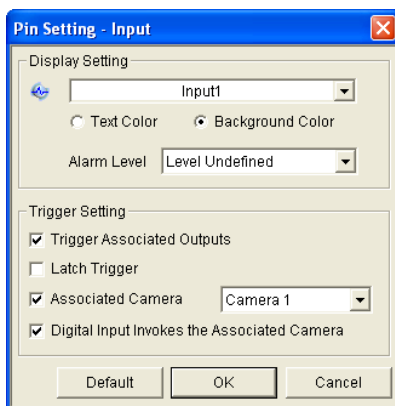

Figure 4-66
- **Use User-defined Text:** Allows you to modify the text of Alarm Level (Figure 4-66).